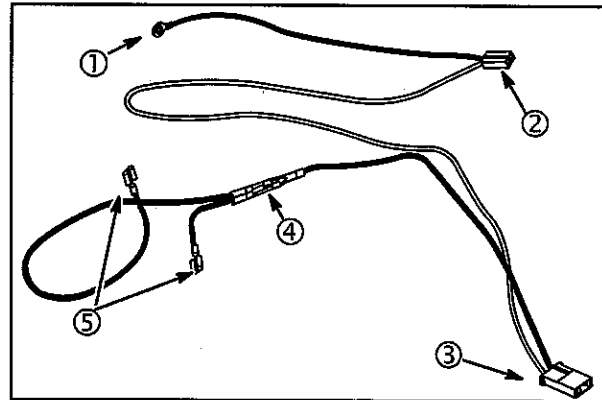

Fig. 45
The engine wiring harness consists of a ground wire (1) with a diode (4) for each armature (5) and a separate wire (2) for the carburetor solenoid, **Fig. 45**. The engine wiring harness is connected to the wiring harness provided by the equipment manufacturer. A raised rib on the polarized connector (3) indicates the ground side.